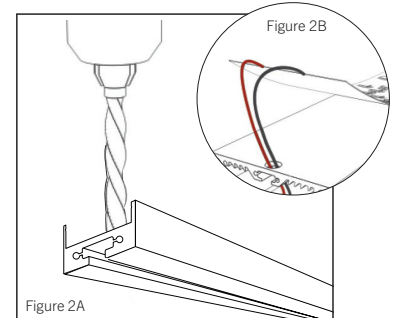

Figure 2A
STEP 2 Drill a hole in channel for main power wire and a hole in the ceiling to mount. (Figure 2A)